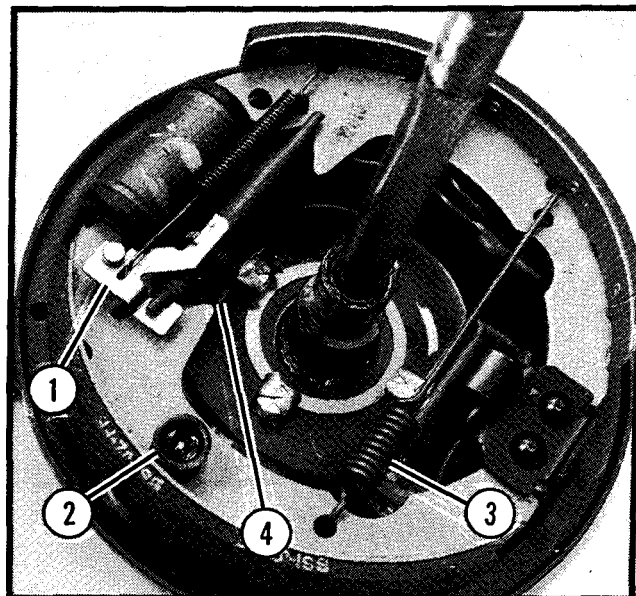

Figure 7.
2. Disconnect both return springs from shoe assembly and brake lever. Remove shoe retainers. Remove brake lever and adjuster. Care must be taken not to disturb the hydraulic wheel cylinder. Remove the brake shoes from the backing plate. See Figure 7.